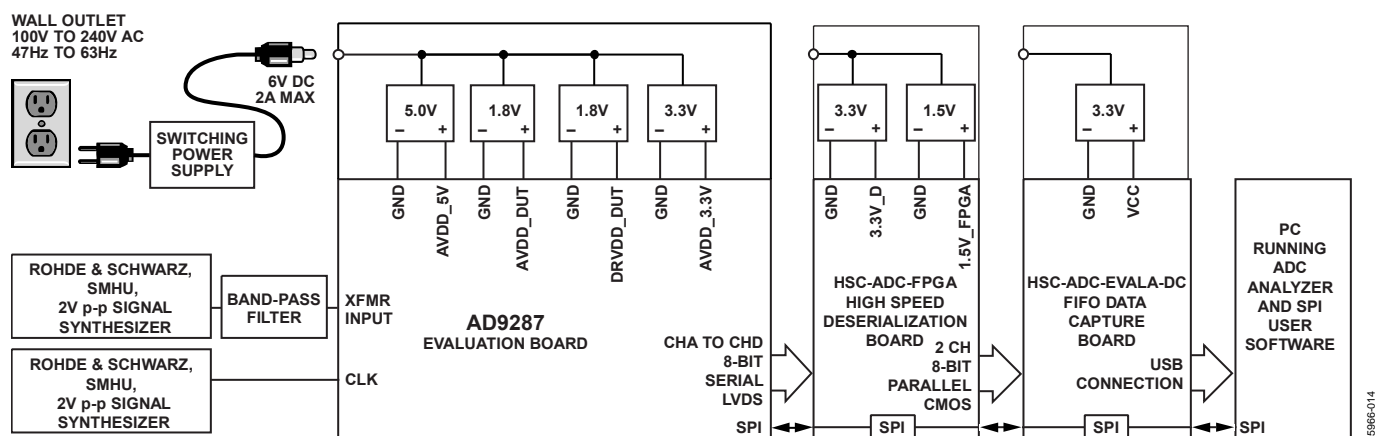
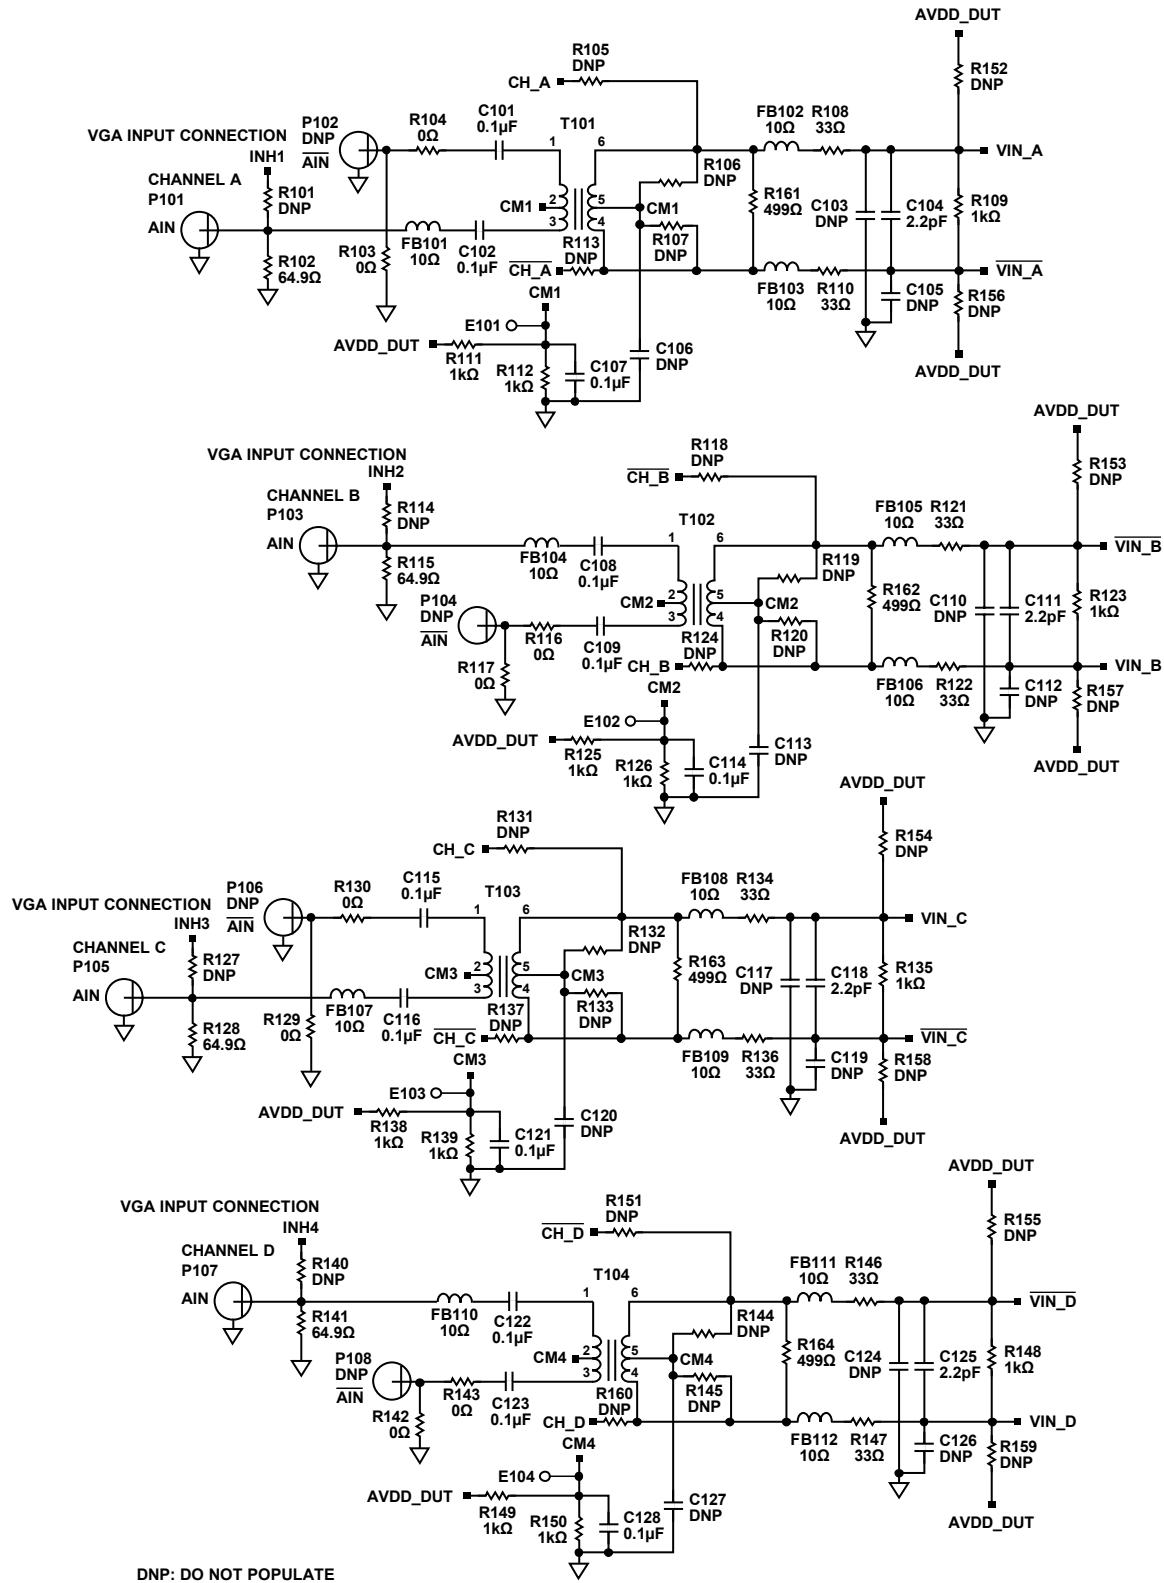

Figure 61. Evaluation Board Connection
Figure 63. Evaluation Board Schematic, DUT Analog Inputs
The AD9287 evaluation board provides all of the support circuitry required to operate the ADC in its various modes and configurations. The converter can be driven differentially through a transformer (default) or through the AD8332 driver. The ADC can also be driven in a single-ended fashion. Separate power pins are provided to isolate the DUT from the AD8332 drive circuitry. Each input configuration can be selected by proper connection of various jumpers (see Figure 63 to Figure 67). Figure 61 shows the typical bench characterization setup used to evaluate the ac performance of the AD9287. It is critical that the signal sources used for the analog input and clock have very low phase noise (<1 ps rms jitter) to realize the optimum performance of the converter. Proper filtering of the analog input signal to remove harmonics and lower the integrated or broadband noise at the input is also necessary to achieve the specified noise performance.
See Figure 63 to Figure 71 for the complete schematics and layout diagrams that demonstrate the routing and grounding techniques that should be applied at the system level.
- **D+, D-:** If an alternative data capture method to the setup described in Figure 61 is used, optional receiver terminations, R206 to R211, can be installed next to the high speed back-plane connector.